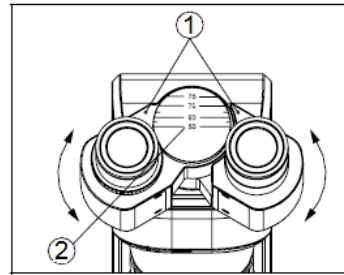

Fig. 2 Adjustment of interpupillary distance
Point (1) indicates the interpupillary distance of the user on the scale (2) (see Fig. 2).